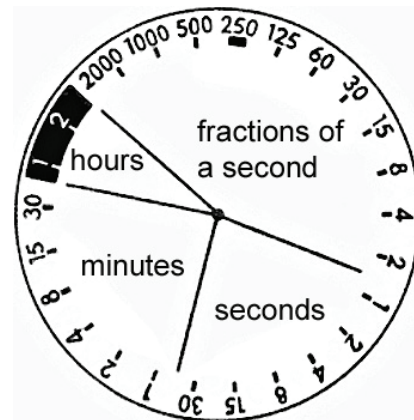

Fig. 5. The shutter speed scale
7. The shutter speed scale (Fig. 5) is marked in fractions of a second, seconds, minutes and hours. In the fractions of a second range, only the denominators of fractions are used, for legibility (e.g. 2000 instead of 1/2000).